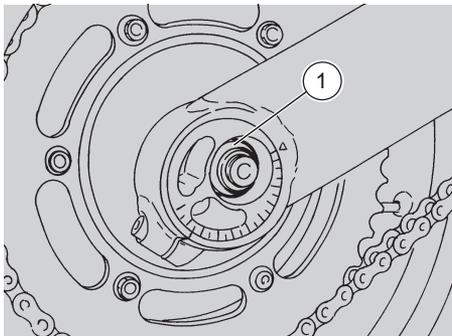

Fig. 31
- ◆ Unscrew and remove the nut (1-Fig. 31).
- ◆ Insert and screw the nut (1-Fig. 31) until the pin sets in the seat.